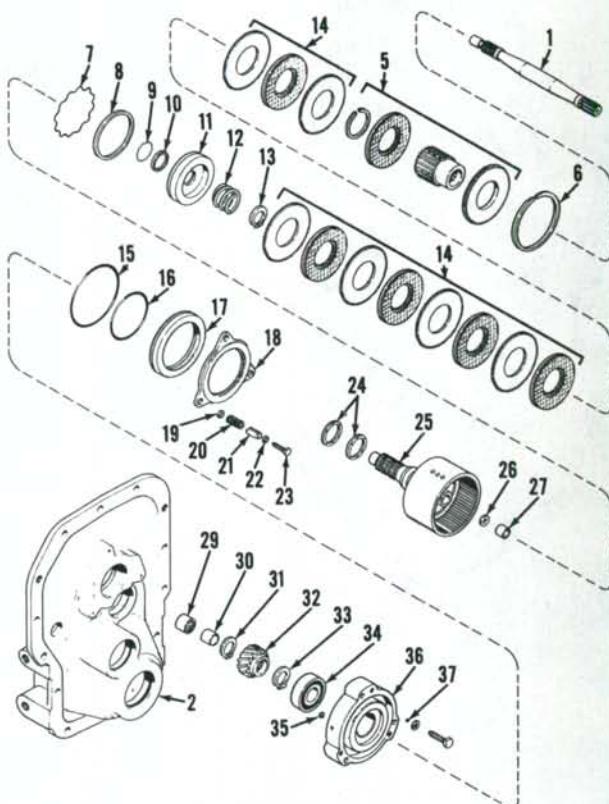

Fig. 226—Exploded view of pto brake and clutch assembly for Model 2090 and 2290 tractors.
205. Unbolt and remove pto carrier assembly (items 6 through 37—Fig. 226). Remove needle bearing (29), snap ring (31), then using a suitable puller remove input gear (32) and needle bearing race (30). Remove snap ring (33) and using a suitable puller remove input bearing (34). Remove brake carrier (36) being careful not to lose "O" rings (35) and ball (37). Remove oil control rings (24), retaining back-up ring (6), clutch hub (5) with back-up and friction plate. Remove clutch pack (14). Remove snap ring (13), clutch piston return spring (12), then using compressed air in piston supply port, remove clutch piston (items 7 through 11) from carrier (25). Remove inner and outer seals (8 and 10) and "O" rings or wave springs (7 and 9) from clutch piston (11). Remove and discard support bushing (27) and thrust washer (26) from carrier (25).
208. Reassemble pto brake (items 15 through 23—Fig. 226) using new "O" rings (15 and 16) on piston (17). Lubricate piston with petroleum jelly and install in carrier (36) flat side up. Install friction plate (18), washers (19) and roll pins (21). Free length of springs (20) is 1.54 inches (39.12 mm) and compressed length at 50 lbs. (68 N) should be 0.500 inch (12.7 mm). Renew all springs if any one spring fails to meet specifications. Install springs (20), then using Loctite 271 or equivalent on bolts (23), install bolts and washers (22) tightening bolts to 18-25 ft.-lbs. (24-34 N·m) torque.
209. Reassemble pto clutch by reversing disassembly procedure. Heat bearing (34—Fig. 226) before installation. Install new thrust washer (26) and press new bushing (27) to a depth of 0.070 inch (1.778 mm) below surface of carrier and ream bushing to an ID of 0.8135-0.8145 inch (20.663-20.688 mm) as shown in Fig. 227. On Models 2090 and 2290, ends of wave springs (7 and 9—Fig. 226) should be toward piston as shown in Fig. 228. On all models, piston return spring (12—Fig. 226) should have a free length of 1.75 inches (44.45 mm) and a compressed length at 78 lbs. (106 N) of 1.25 inches (31.8 mm). Renew spring if specifications are not met. Make certain hooked ends of oil rings (24) connect each other. Install new needle bearing for pto carrier assembly into housing to a depth of 0.094-0.125 inch (2.388-3.175 mm) as shown in Fig. 229. Install two new "O" rings (35—Fig. 226) into brake carrier, then install pto carrier assembly onto pto housing and tighten retaining bolts to 45-54 ft.-lbs. (61-73 N·m) torque.
219. PTO CLUTCH AND BRAKE CARRIER. Refer to paragraphs 205, 208 and 209 and to Fig. 226 for overhaul procedure of pto clutch and brake carrier.